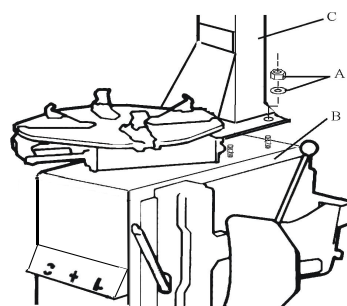

Fig 3
2. Unscrew the nut A on the machine body B as shown in Fig 3. Lift the column C; mount it on the machine body B by using the nut A through the bolt located on the machine body B. If the column becomes loose after a period of using, tight them immediately. Otherwise the result of damage to the